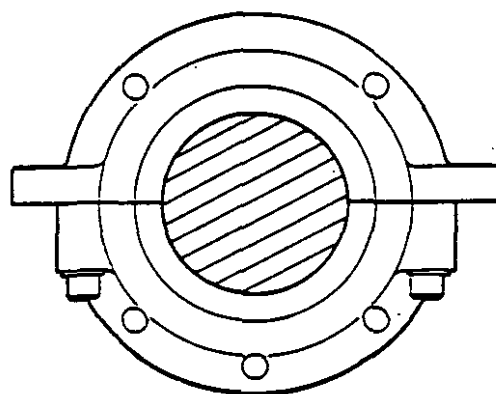

Figure 9. RETAINER ON SHAFT
9. Install and tighten the socket screws. This will push the packings into the correct contact with the packing grooves and the correct diameter for installing in the crankshaft. See Figure 9.